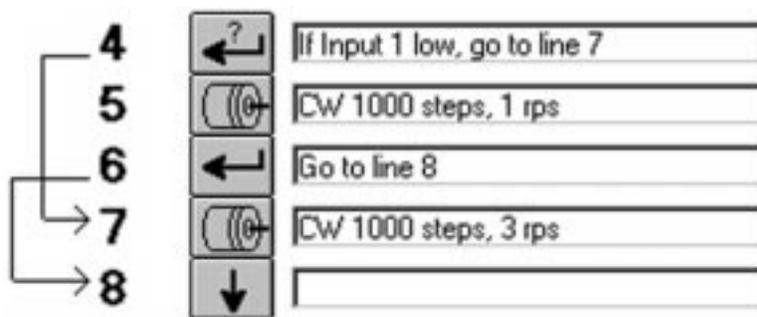

Figure 62
- It allows a parameter to be changed such as distance or speed based on an input. Consider the example above. How will the cut-off saw know how fast to go when the switch is set for "Aluminum" or "Steel?" The same switch that controls the movement of the saw could be wired to the MSCLDC. This time, the program is written as shown in Figure 62.